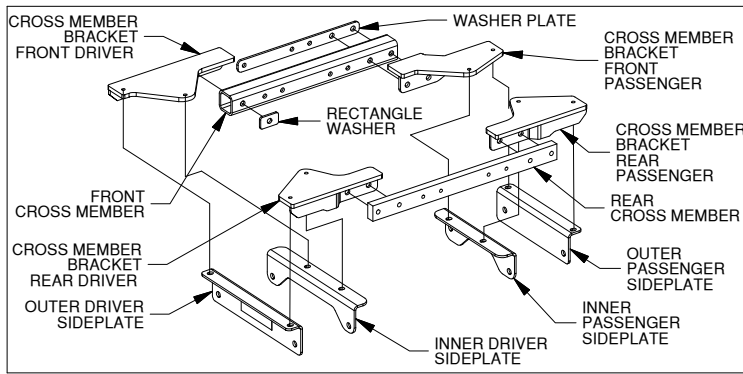
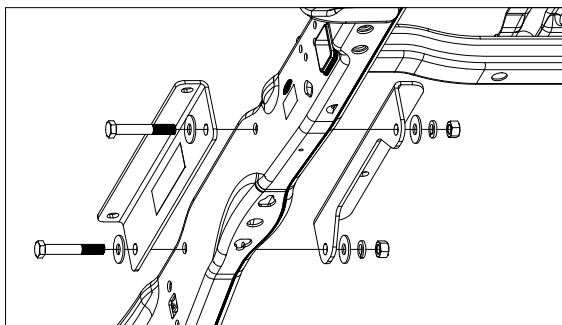
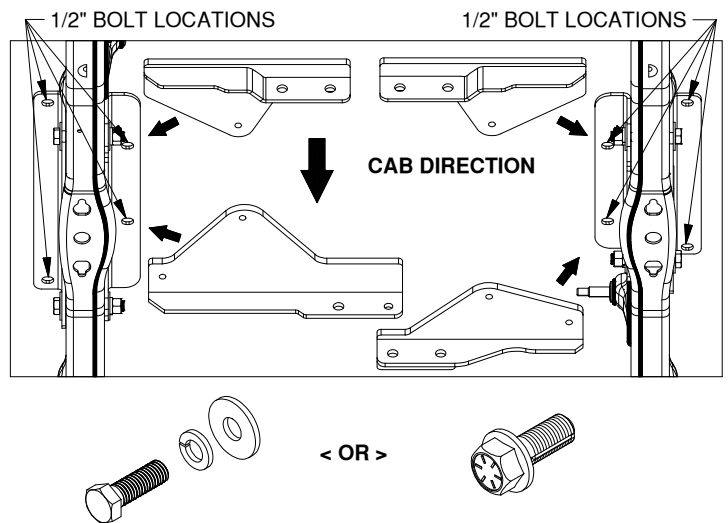
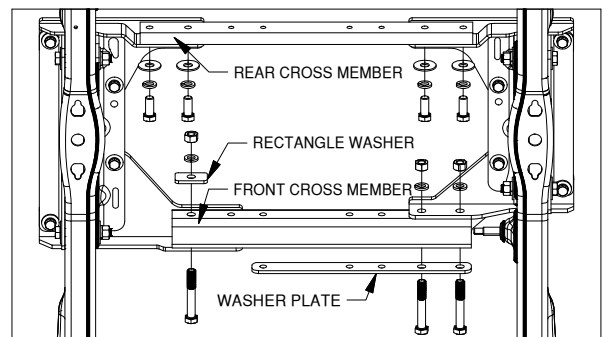

Figure B1: Sideplates and Mounting Kit Exploded View
Figure B2: Driver Side Sideplates
Figure B4: Bottom of truck frame looking up from the back of truck towards the cab
Figure B5: Bottom of truck frame looking up from the back of truck towards the cab
- 2. Install Side Plates.** Locate the outer and if needed the inner sideplates, see figure B1. Install the side plates as shown in Figures B2 & B3, so that there is a side plate on the inside and outside of each frame member. Attach the side plates to the frame using 5/8" x 4" bolts, two flat washers, lock washer, and nut, as shown in Figure B2. Fasten hardware until the side plates are flush against frame.
- 3. Install Cross Member Brackets.** Locate the four cross member brackets as shown in Figure B1, and the eight, 1/2" bolts with an added thread locker. Attach these brackets to the inner and outer side plates using these bolts. If the bolts with thread locker are cap screws without a flanged head, also add a flat and lock washer, see Figures B4.
- 4. Install Front Cross Member.** Locate the front cross member shown in Figure B1. Attach the front cross member, washer plate and two 5/8" X 4" bolts to the passenger side cross member bracket, see Figure B6. Next, attach the cross member to the driver side cross member bracket with 5/8" x 4" bolt, rectangle washer, lock washer and nut, see Figure B5.
- 5. Install Rear Cross Member.** Locate the rear cross member shown in Figure B1. Attach the rear cross member to the cross member brackets as shown in Figure B6 with 5/8" x 1-1/2" bolts, flat washers, and nuts.